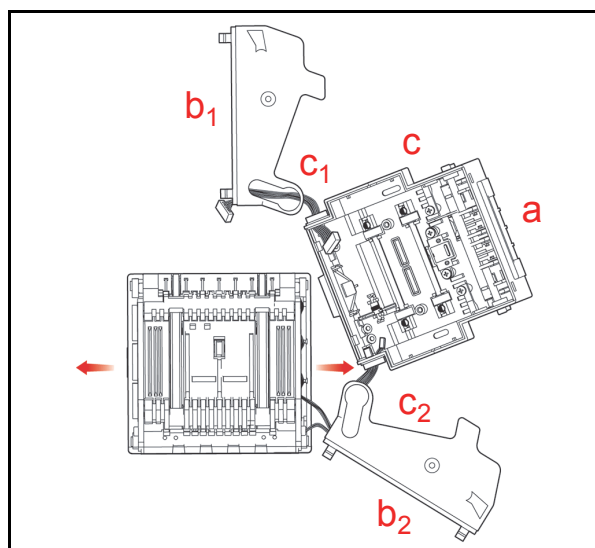

Figure 4-7 Upper Lid and Side Covers Removal
3. Remove the Upper Lid (See Figure 4-7 a) and left and right Side Covers (See Figure 4-7 b₁ & b₂) off of the Assembly.
4. Unplug the two (2) Harness Connectors (See Figure 4-7 c₁ & c₂) from both the left and right sides of the Sensor Circuit Board Assembly.